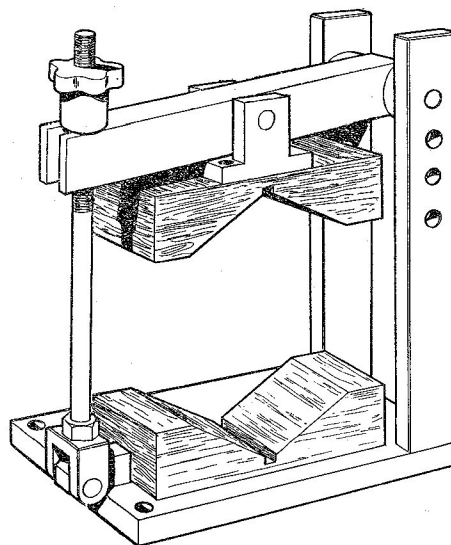

Fig. 7 Typical motor unit clamp
28. (1) The motor speed should now be set by retarding the brush gear from its geometric neutral axis by 1.0 degree (+ 1.5, - nil degrees). To determine the geometric neutral axis proceed as follows: Isolate the field coils from the brush boxes and insert a special 'pencil' brush, SPE.16200 (fig. 5), in two adjacent brush boxes. Secure each with a 4-B.A. round head screw (62) and spring washer (63). Do not connect the brush pigtails or the field leads to the brush boxes. Clamp the motor unit in a bench clamp similar to that illustrated in fig. 7 to facilitate setting and retardation.